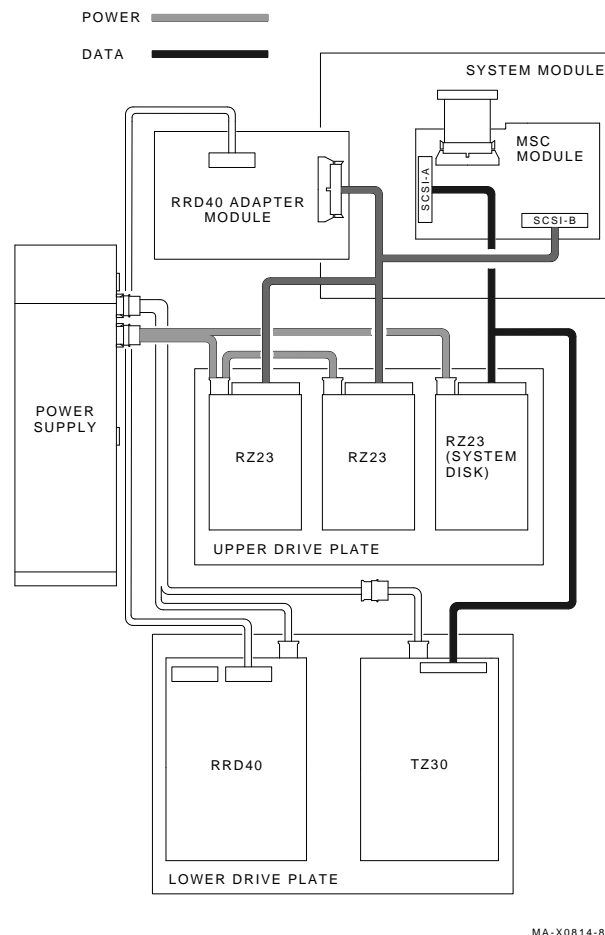

Figure 3-12 Disconnecting the Power and MSC Cables
1. Disconnect the power cable and the SCSI data cable from any installed RZ23 drive (Figure 3-12.)